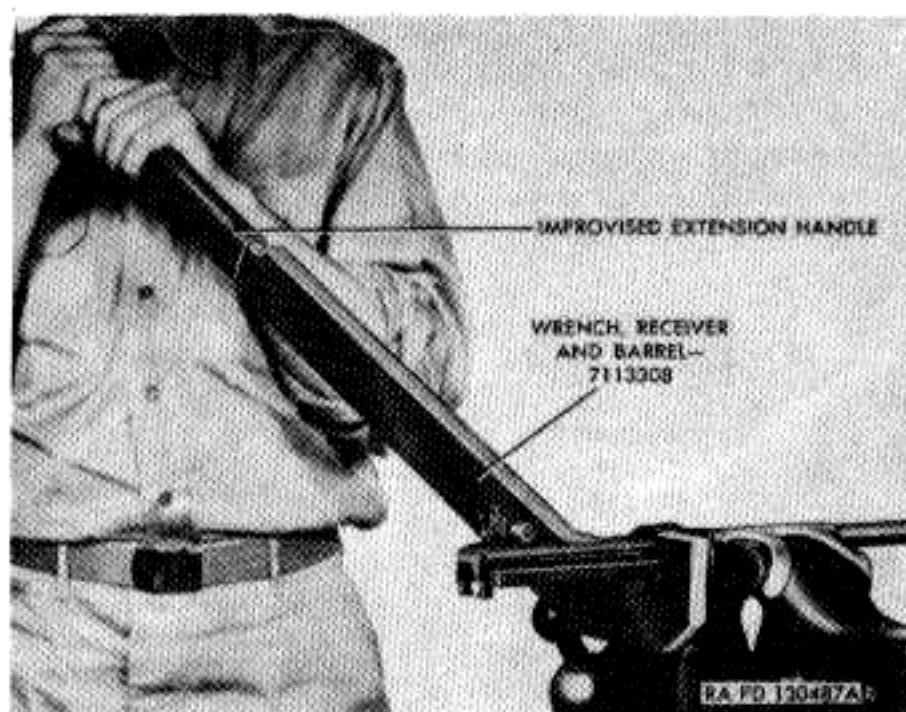

Figure 76. Removing barrel from receiver.
a. Removing Barrel From Receiver (DEPOT MAINTENANCE ONLY). Do not remove the barrel from the receiver except for replacement of a new barrel. Replace barrel if it is bent or damaged, if the chamber is worn to the extent of effecting excessive headspace or if it does not meet the requirements specified in table III. Completely disassemble all components from barrel and receiver. Place barrel in jaw protected vise. Allow enough of the rear end of the barrel to project from the vise to permit the wrench 7113308 to be positioned over front of receiver (Fig. 76). Place wrench over receiver near barrel and unscrew counterclockwise.